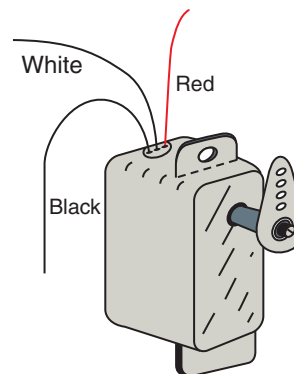

Fig. 5-33 Art for self-test questions 64, 65, and 66.
64. Refer to Fig. 5-33. This device, which might be found in a radio-controlled airplane or car, is called a _____ (servo motor, stepper motor).
65. Refer to Fig. 5-33. The red lead is connected to + of the power supply, the black lead to ground, and the white lead to the servo is the _____ (input, output) lead.
66. Refer to Fig. 5-33. This hobby servo motor is controlled by inputs from a pulse generator using _____ (pulse-amplitude, pulse-width) modulation.